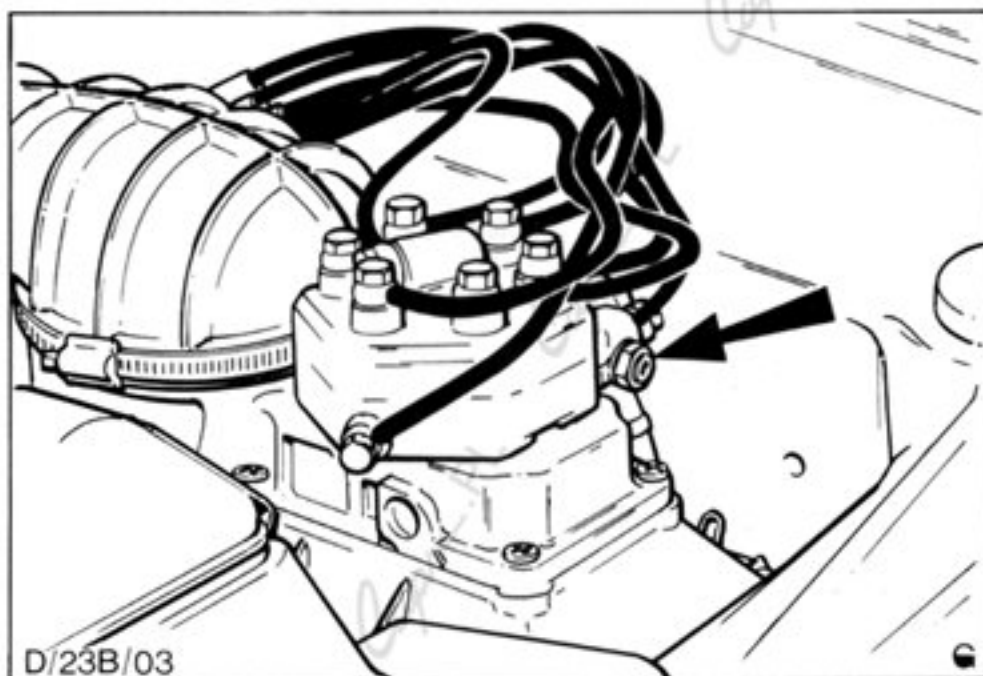

Fig.59. Main system pressure regulator.
- (ii) Close shut off valve at pressure gauge and record pressure. Gauge will now indicate main system pressure which should be compared with specification. (Refer Technical Data) If pressure is outside specification the regulator, Fig.59, can be removed and adjusted as follows.